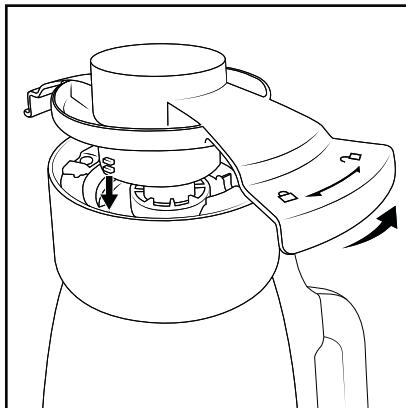

Fig. 4
- Use the lid catch **14** to remove the blade **17**. To do this, place the lid catch **14** in the locking tabs on the bottom of the blade **17** and turn them anticlockwise until the blade **17** can be removed (figs. 4).